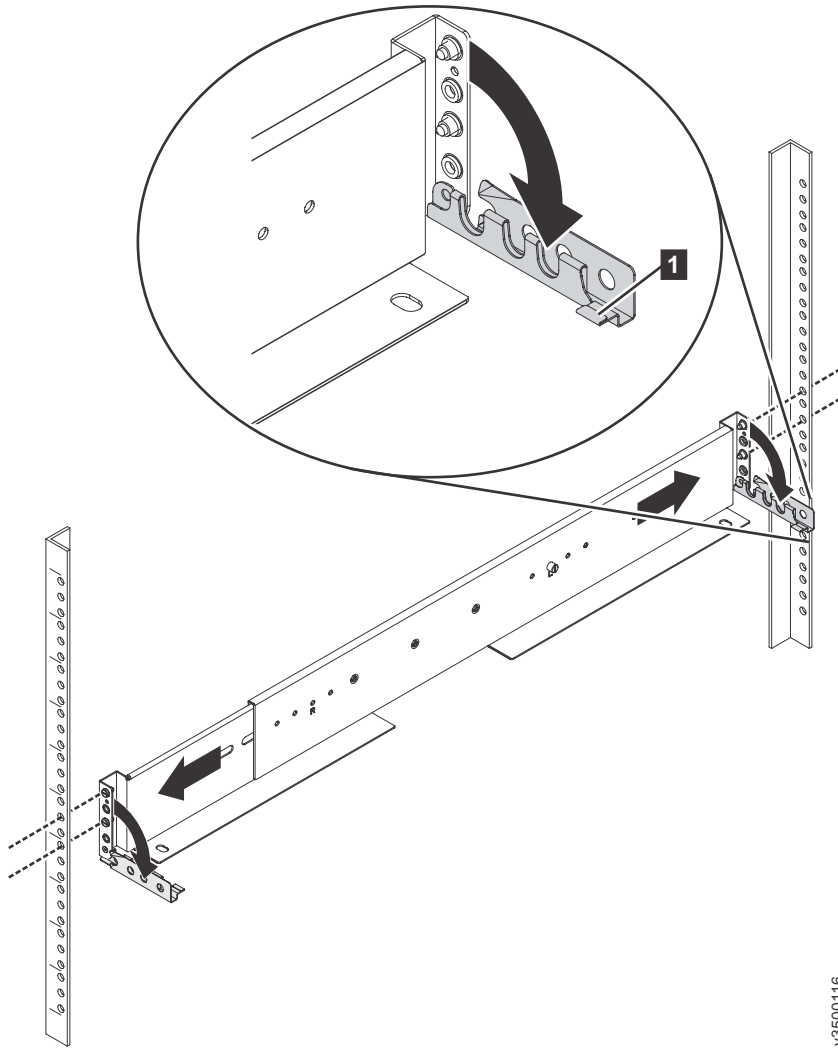

Figure 9. Opening the hinge brackets
5. At each end of the rail, grasp the tab **1** and pull *firmly* to open the hinge bracket (see Figure 9).